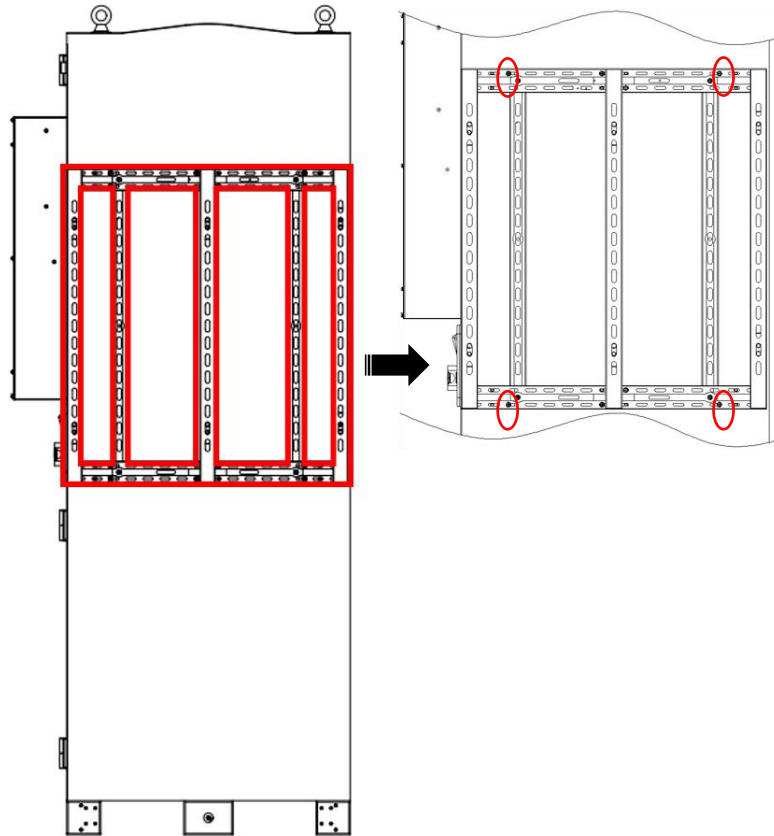

Figure 3.2.9
(1) Refer to the figure below to loosen the four screws on the cabinet bracket and place them aside (Fig. 3.2.9).